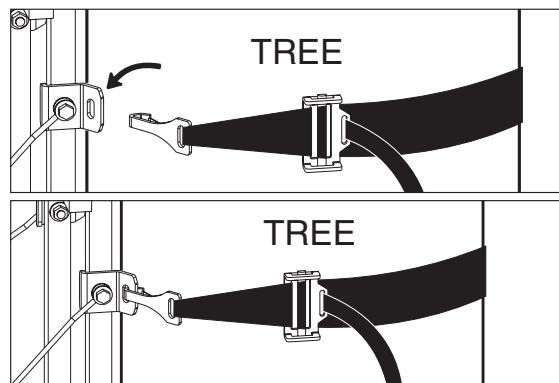

FIGURE 3
- b. Take buckle and wrap around tree. Be sure the strap is even and at the same level all the way around the tree. Also, be sure there are no twists in the strap. Connect hook to opposite side of stand by inserting thru hole (slot) provided. **SEE FIGURE 3.**
- c. Pull on excess end of strap firmly - snugging up stand to tree. **SEE FIGURES 3 & 4.**
DO NOT EXCEED THE TOTAL FIELD RATING - 300 LBS., DO NOT TWIST STRAP WHEN ATTACHING. SEE FIGURE 3 FOR CORRECT ATTACHMENT.